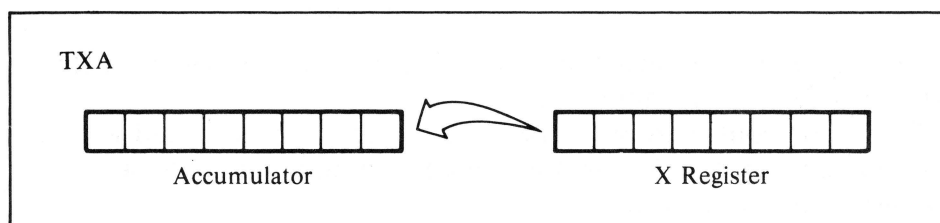

Figure 8-6. Transfer from X register to accumulator
- **TXA** — Transfers the contents of the X register to the accumulator (see Figure 8-6).